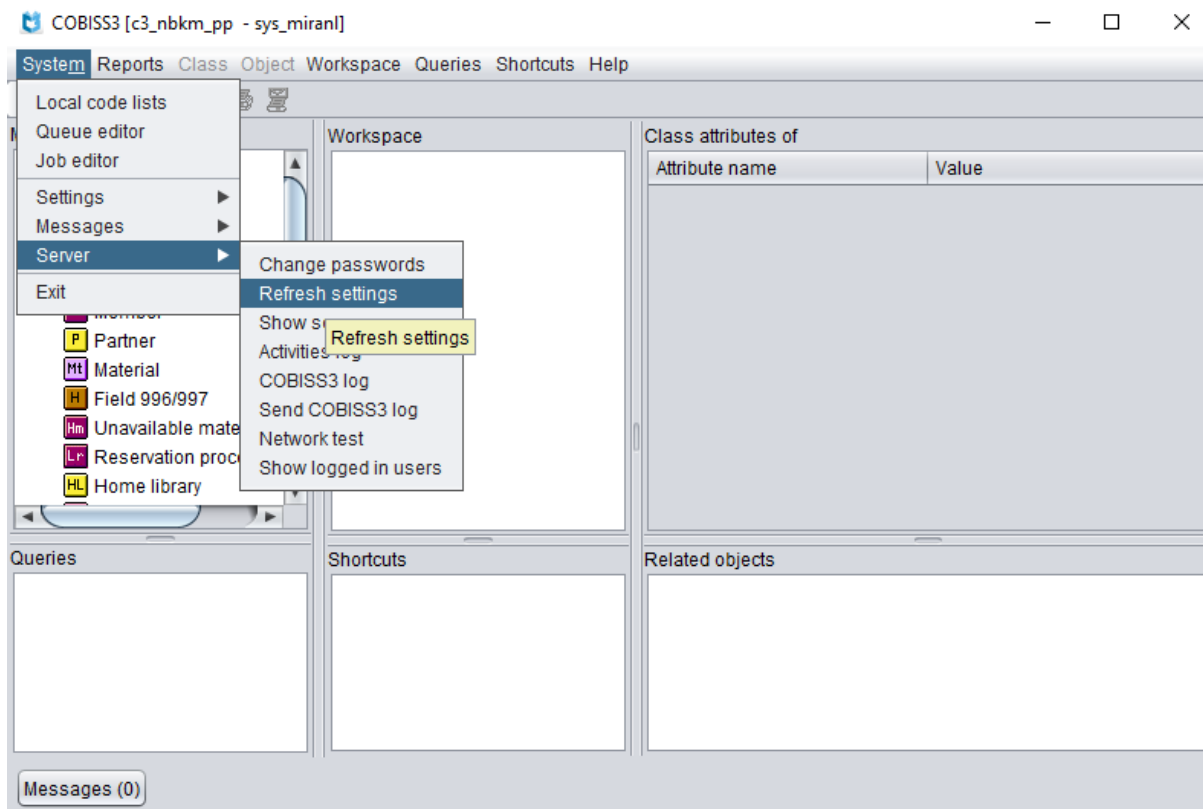

Figure 10: Refresh settings in the COBISS3 user interface
- Figure 10: Refresh settings in the COBISS3 user interface8
Once you define all the settings, confirm each choice by clicking the **OK** button. At the end, select **Refresh settings** in the **System** menu (see Figure 10). If this option is not available, you can refresh the new settings by signing out and back into the COBISS3 software.